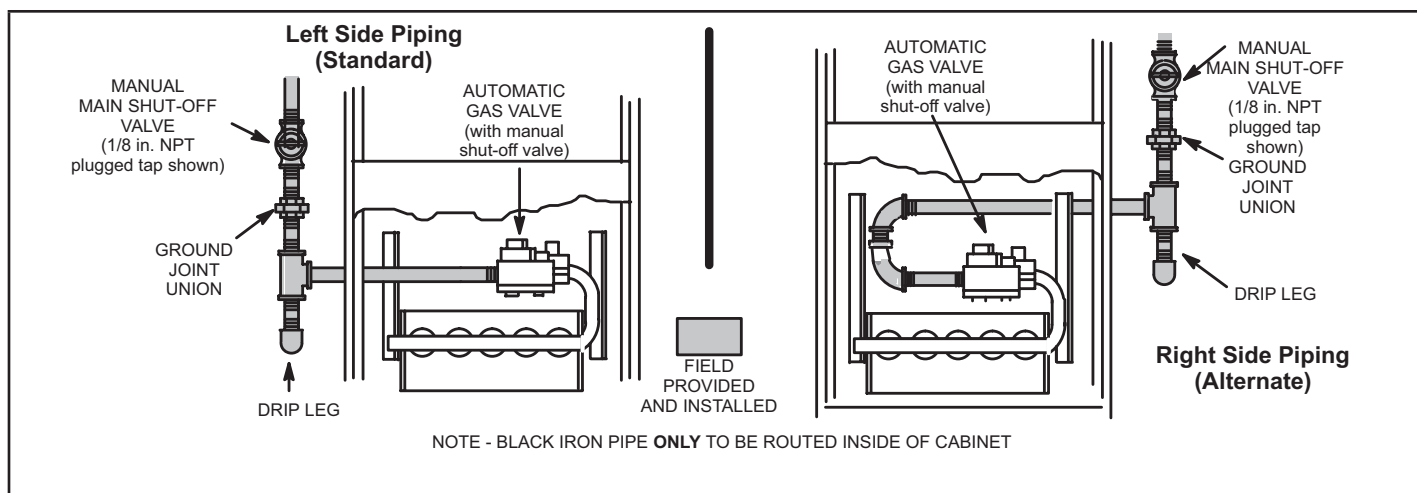

FIGURE 56
- 1 - Gas piping may be routed into the unit through either the left- or right-hand side. Supply piping enters into the gas valve from the side of the valve as shown in "FIGURE 56". Connect the gas supply piping into the gas valve. The maximum torque is 800 in lbs and minimum torque is 350 in lbs when attaching the gas piping to the gas valve.
- 3 - Gas piping must not run in or through air ducts, clothes chutes, chimneys or gas vents, dumb waiters or elevator shafts. Center gas line through piping hole. Gas line should not touch side of unit. See "FIGURE 56".